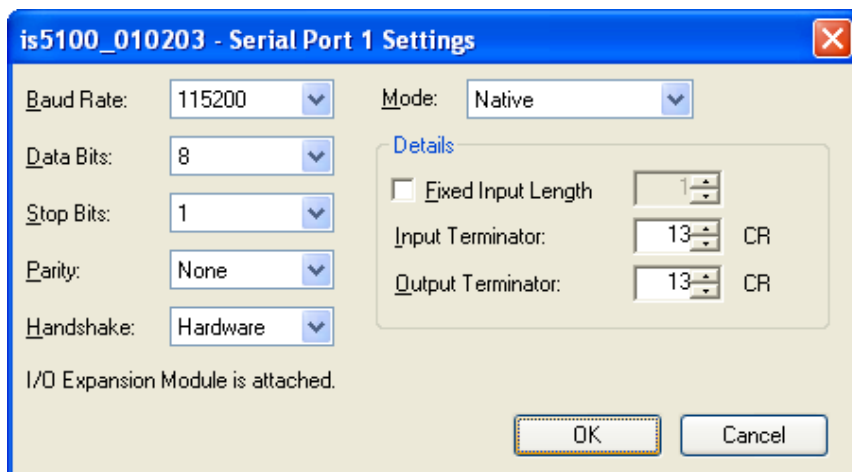

Figure A-4: Serial Port Settings Dialog
3. Select Hardware from the Handshake drop-down list (Figure A-4).